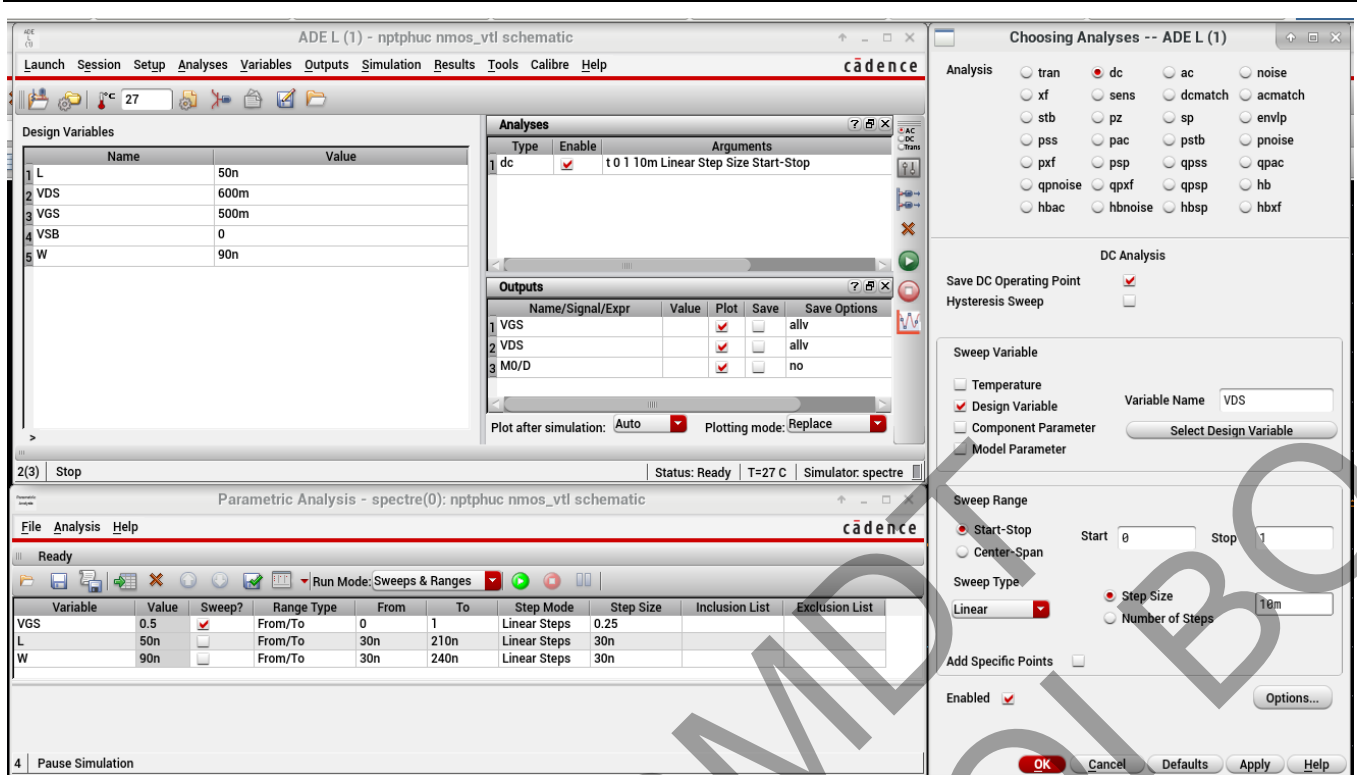

Figure 6 Setting parameters for characterizing I_D vs V_{DS} @ $V_{GS} = \{0, 0.25, 0.5, 0.75, 1.0\}$ V
- Students can refer to the setting in Figure 6 drawing I_D vs V_{GS} @ $V_{DS} = 1V$, $V_{SB} = \{0.1, 0.55, 0.9\}V$ and sweeping $V_{GS} = [0, 1.5]V$ step 10mV.